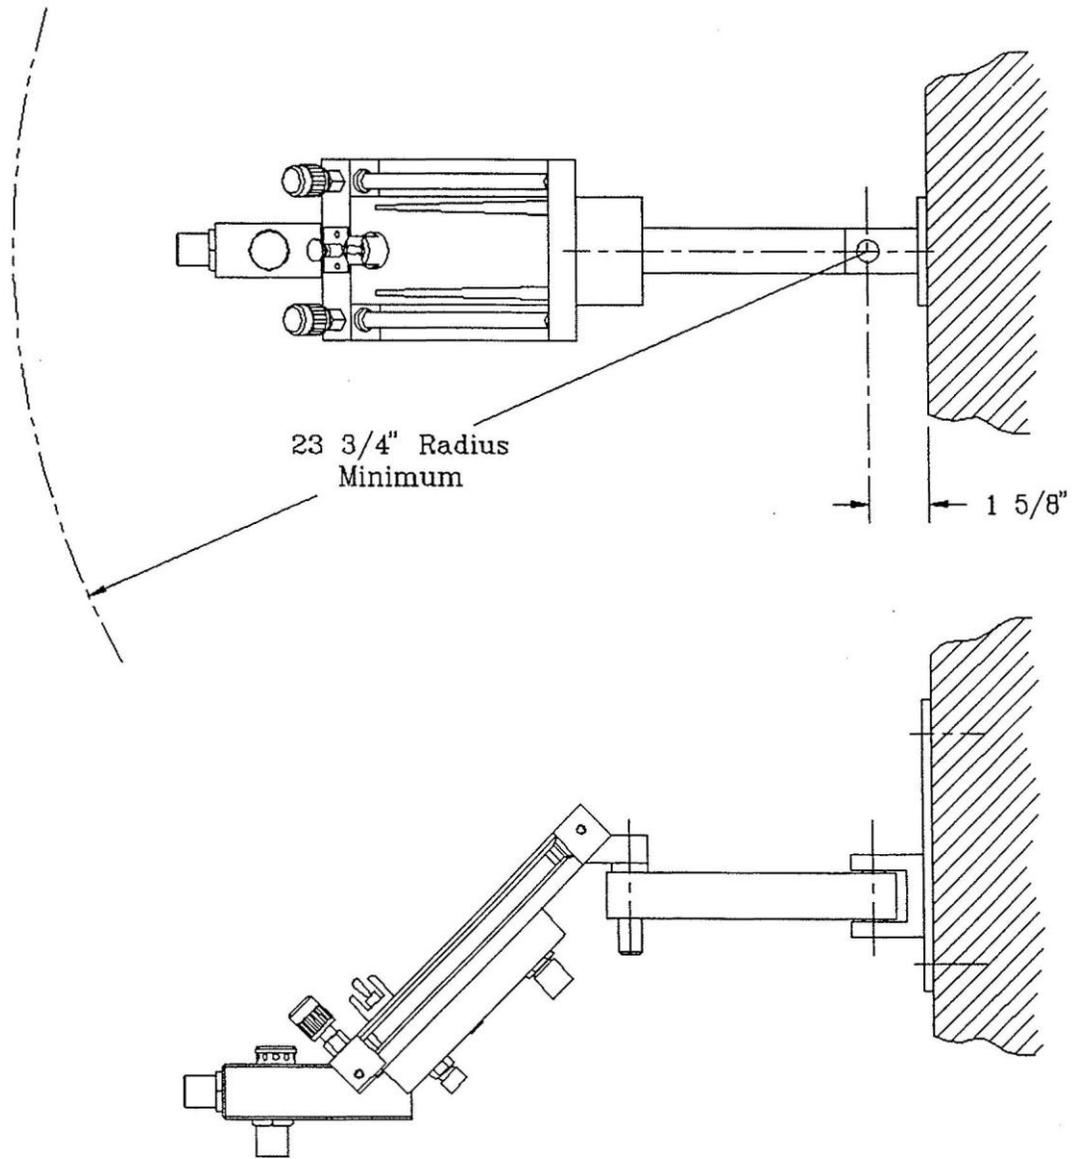

Figure 28
C. RA Wall Mounted (see fig 28)